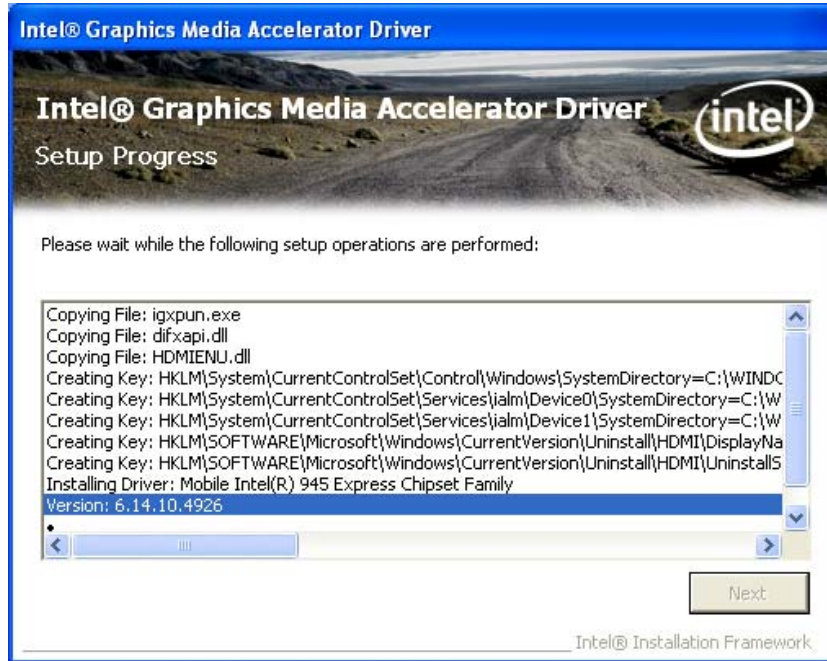

Figure 6-14: VGA Driver Setup Operations
Step 13: Setup Operations are performed as shown in **Figure 6-14**.